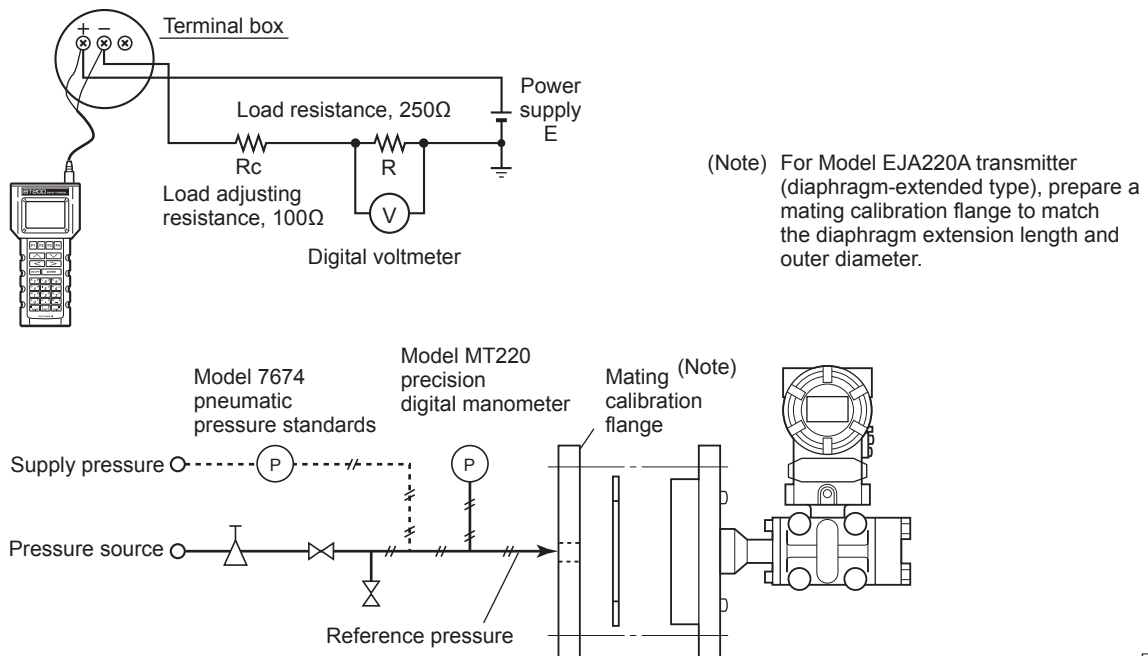

Figure 9.1 Instrument Connections
- 1) Connect the instruments as shown in Figure 9.1 and warm up the instruments for at least five minutes.